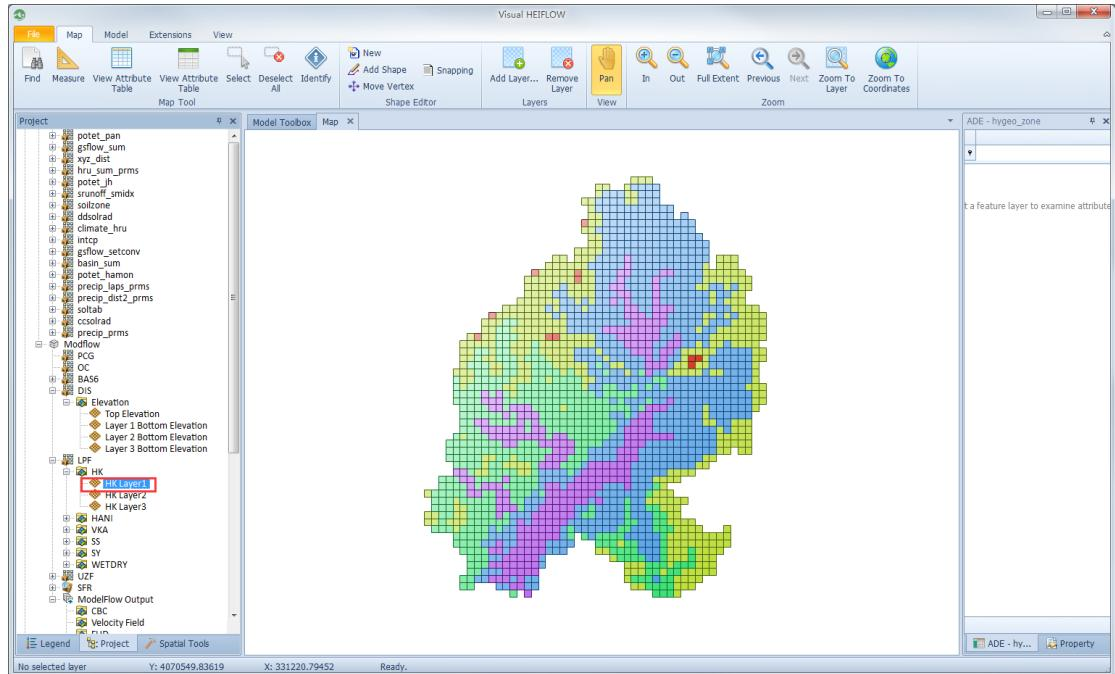

Figure 5-17. Spatial distribution of horizontal hydraulic conductivity (HK) of the first grid layer.
- 6) In the Project Explorer, locate the item “HK Layer1” and show its Map View (Figure 5-17).